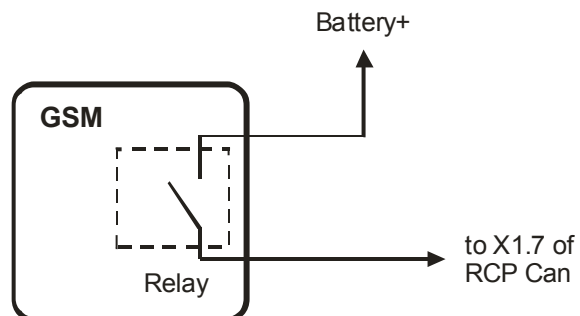

Figure 8
- Some GSM modules control external device by the means of inner relay. These may be connected to RCP by the scheme at the fig.8